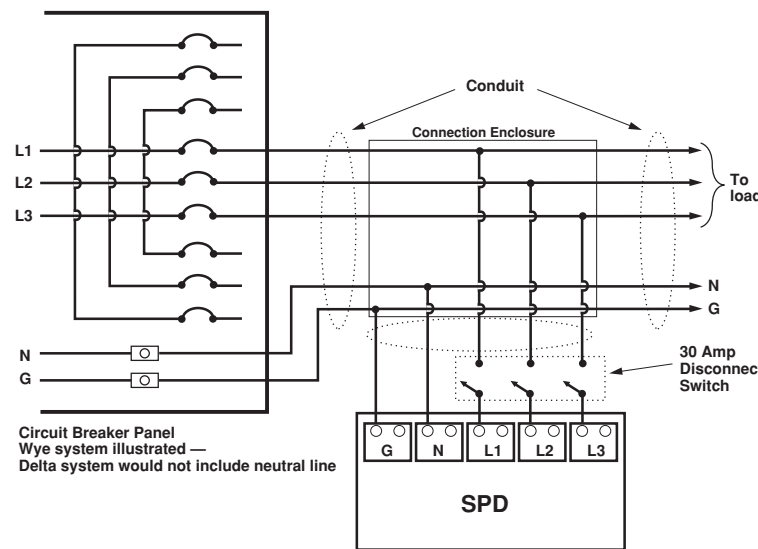

Fig. 8 - SPD Shunt Connection
**In Method 2, Fig. 8**, the SPD Panel is connected through dedicated circuit breakers of 30 amps. For maximum surge protection the SPD Panel should be mounted as close as possible (no more than 18 inches) from the circuit breaker panel. Use wire size #10 to #3 AWG, stranded. In a variation of this connection, the panel circuit breakers can also feed a load by connecting the SPD panel to the circuit within an approved connection enclosure. In this case, the circuit breakers must be rated for this load. The SPD panel should be connected to these breakers through a 30 amp rated (minimum), 3-pole disconnect switch. This facilitates SPD disconnection for installation or maintenance without interrupting power to the load.